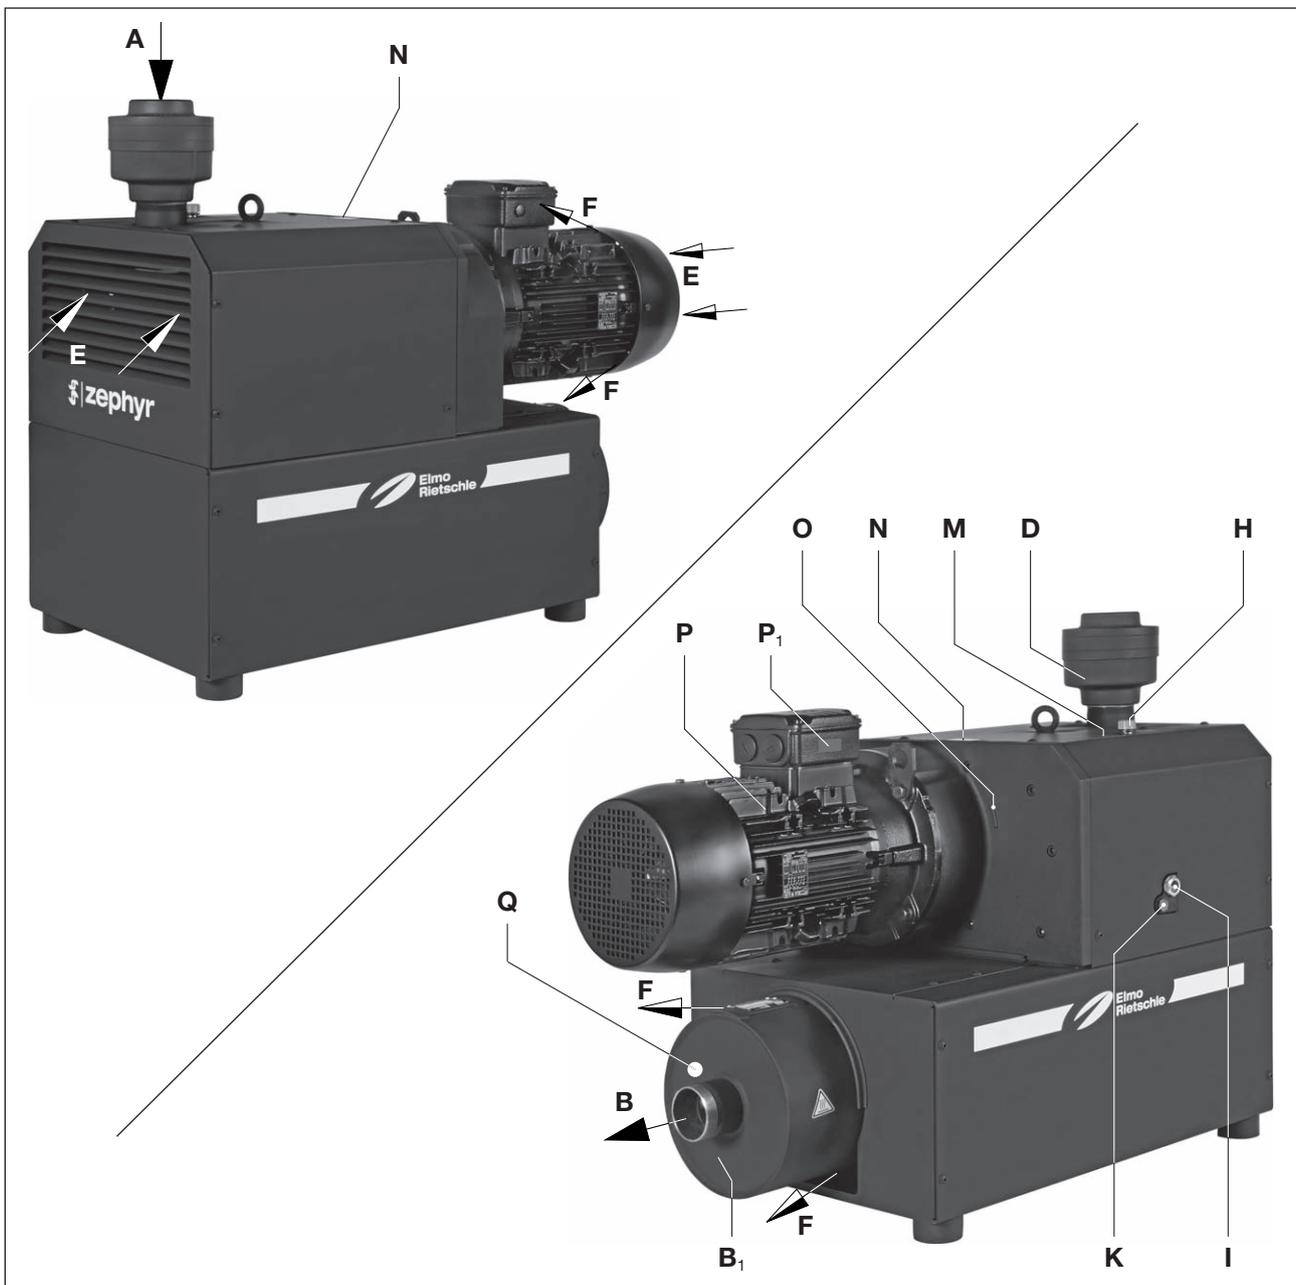

Fig. 2 Vacuum pump C-VLR 401 and C-VLR 501
The C-VLR 401 and C-VLR 501 model has a connection flange on the inlet side and an exhaust silencer on the pressure side (Fig. 2/B1). The air sucked in is cleaned by a micro-filter. A non-return valve (Fig. 2/D) prevents the evacuated system from being ventilated after the pump has stopped.
The gearbox and the compression chamber are separated from each other by special seals. The gearbox is sealed from the outside with shaft seals and O rings, the compressor chamber with piston rings. The VLR 401 and VLR 501 are enclosed in an insulating hood. In order to dissipate compression heat, the cooling air is sucked through between the machine and the hood using a drum fan that sucks in the fresh cooling air (Fig. 2/E) and discharges the heated air out of the cooling air outlet (Fig. 2/F).
The oil filling point (Fig. 2/H), oil sight glass (Fig. 2/I) and the oil outlets (Fig. 2/K) must be easily accessible. The cooling air inlets (Fig. 2/E) and the cooling air outlets (Fig. 2/F) must be at least 30 cm away from adjacent walls. Cooling air coming out must not be sucked in again.
- a) Vacuum connection at (Fig. 2/A).
- c) The extracted air can be discharged through the exhaust silencer (Fig. 2/B) or conducted away via a pipe.
- a) Fill the lubricating oil (for suitable types see "Maintenance") for the gear wheels and oil filling point (Fig. 2/H) up to the middle of the sight glasses (Fig. 2/I).
- a) The motor's electrical data is given on the data plate (Fig. 2/N) or on the motor data plate (Fig. 2/P1). The motors comply with DIN EN 60034 and are in protection class IP55 and insulation class F. The appropriate connection diagram is located in the motor's terminal box (not for the plug connection version). The motor data must be compared with the data of the existing mains network (current type, voltage, network frequency, permitted current value).
When the machine is at operating temperature the surface temperatures on the components (Fig. 2/ Q) may go above 70°C. You must avoid touching the hot surfaces (marked with warning plates).
- ▷ The intended direction of rotation of the drive shaft is shown by the rotary direction arrow (Fig. 2/O).